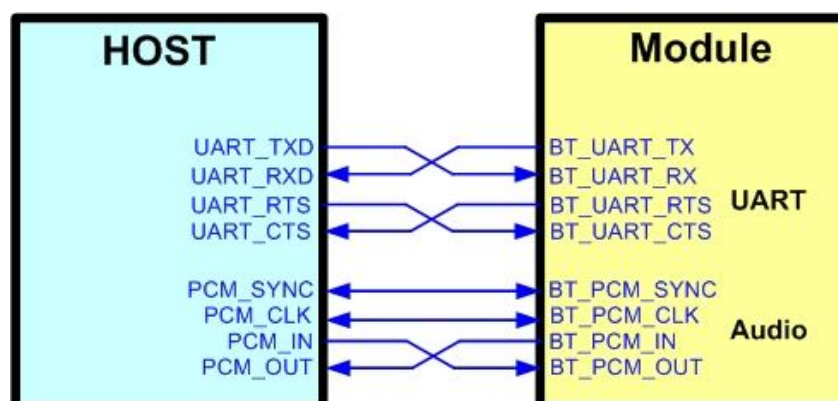

Figure3. Bluetooth verification connection interface to Host UART
- ❖ Refer to Figure3 UART pin definition connects the J1 interface of AP6212 evaluation board to Host UART control interface.